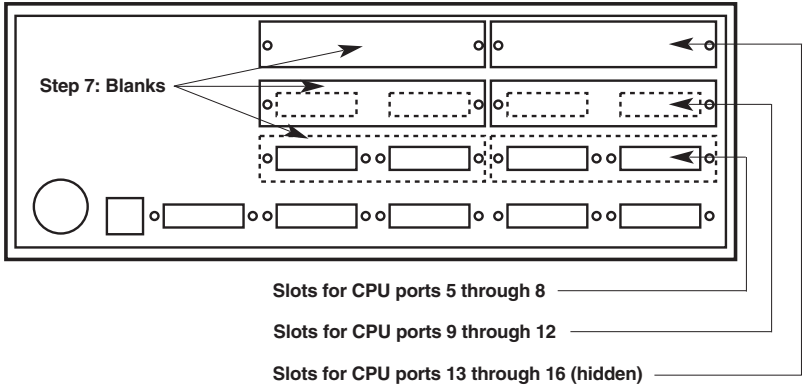

Figure F-3. The Switch's back panel*.
7. Depending on how many Expansion Boards you are installing, you will need to remove two or more of the CPU-port blanks (covering plates) that are attached to the Switch's back panel and cover the CPU-port slots—see Figure F-3 on page 113. Unscrew and remove the screws that fasten these blanks to the back panel, then remove the blanks themselves.